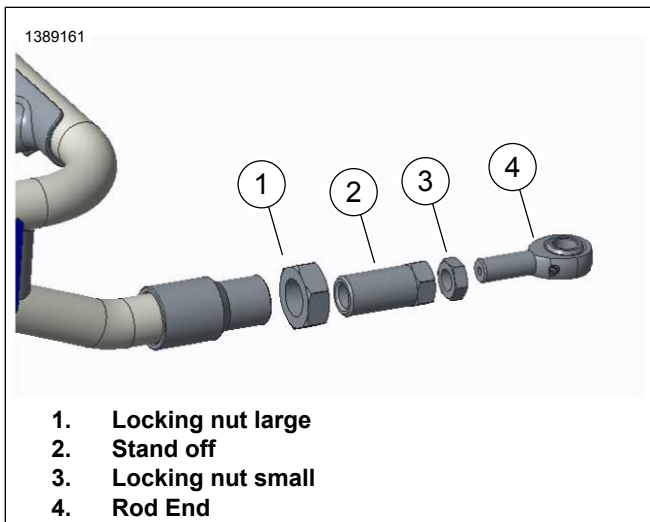

Figure 2-31. Front Mount
1. See Figure 2-31. Loosely install stand-off (1), locking nut (2,3) and rod end (4) into frame.